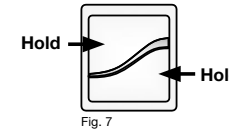

Fig. 7
2. Press and hold UP and DOWN buttons until the LED light turns amber (about three seconds), then release buttons. (Fig. 7)